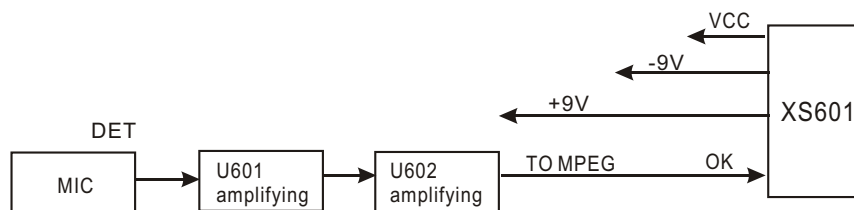

Figure 3.2.13.1 MIC circuit block diagram
1. MIC circuit block diagram is shown in the figure 3.2.13.1: